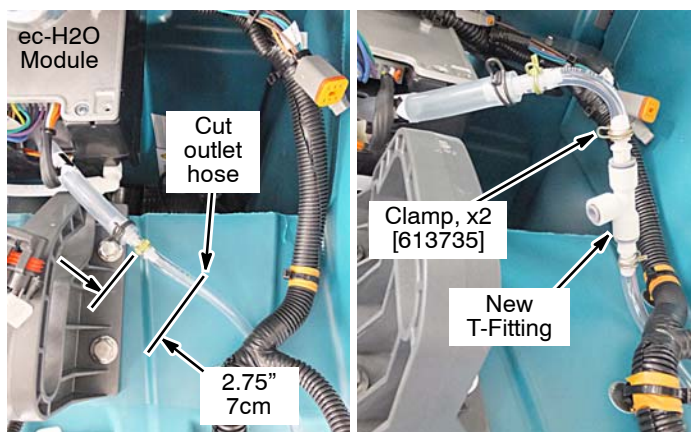

Fig. 27
3. Cut the ec-H2O module outlet hose as described and install new T-fitting as shown (Figure 27).